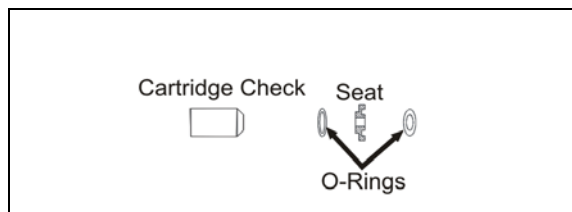

Figure 10
- Replace the cartridge check (see Figure 10).